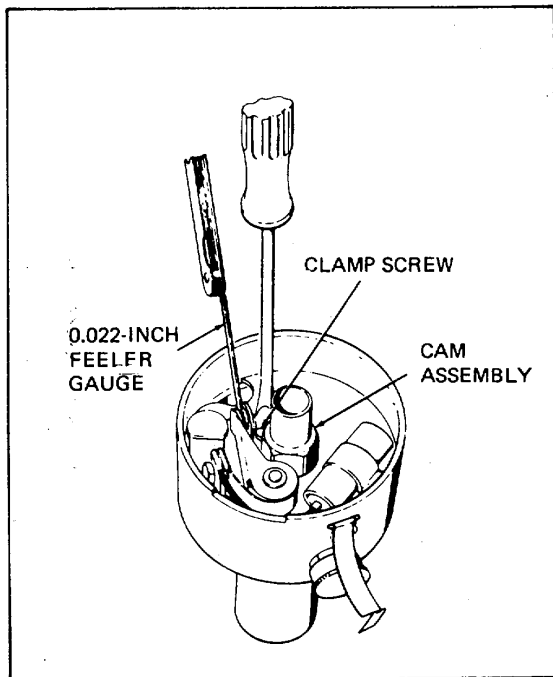

Figure 5-4. Contact Gap Adjustment
a. Contact gap adjustment (See Figure 5-4). The contact point opening must be set to specification. Points set too close tend to burn and pit rapidly. Points with excessive separation tend to cause a weak spark at high speed. Rotate breaker cam until breaker lever rubbing block is on the high point of the cam lobe, thus giving the maximum point opening. Loosen the clamp screw, holding the contact support and adjust point opening by turning screw on contact support. Contact opening should be 0.022 inch. Tighten clamp screw and check with feeler gauge again. The cam angle of the distributor is 31 deg to 37 deg.